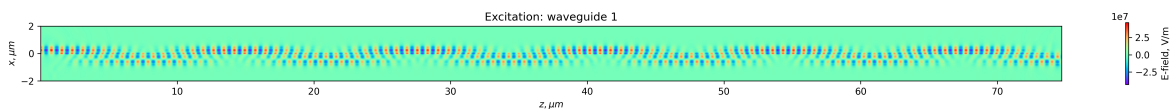

Figure 12: The Y-cut of the x component of the electric field while excited from $wg1$ with mode 1.
c) The simulation results when $wg1$ was excited with the fundamental mode are shown in the figure 12. The power is oscillating between $wg1$ and $wg2$ with a period of $\approx 15\mu m$, in agreement with the calculation above.